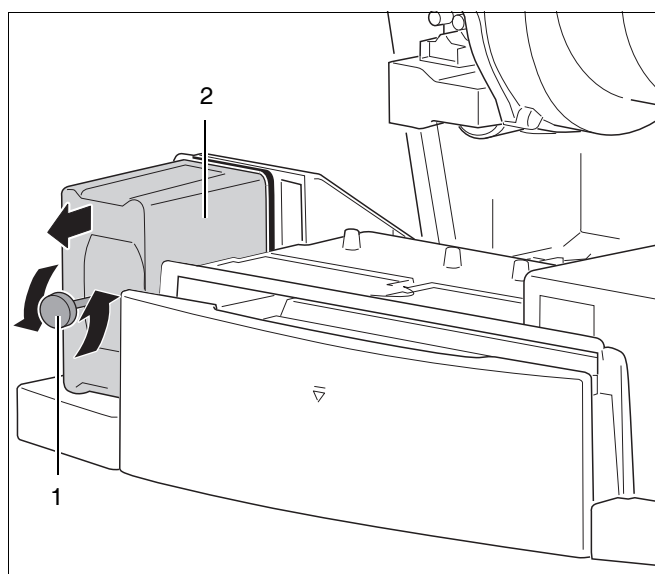

fig. 35 Dismantling the UBA 3
- Loosen the fastening screw of the UBA 3 (see fig. 35, pos. 1).
- Pull the UBA 3 forward in the direction indicated by the arrow (see fig. 35, pos. 2).
- Re-install the UBA 3 (see fig. 35).